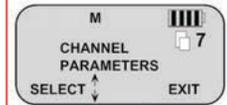

Figure 2
2. Select the "Menu" softkey, scroll down/up to "Channel Parameters" and press the "Select" softkey. (See Figure 2)